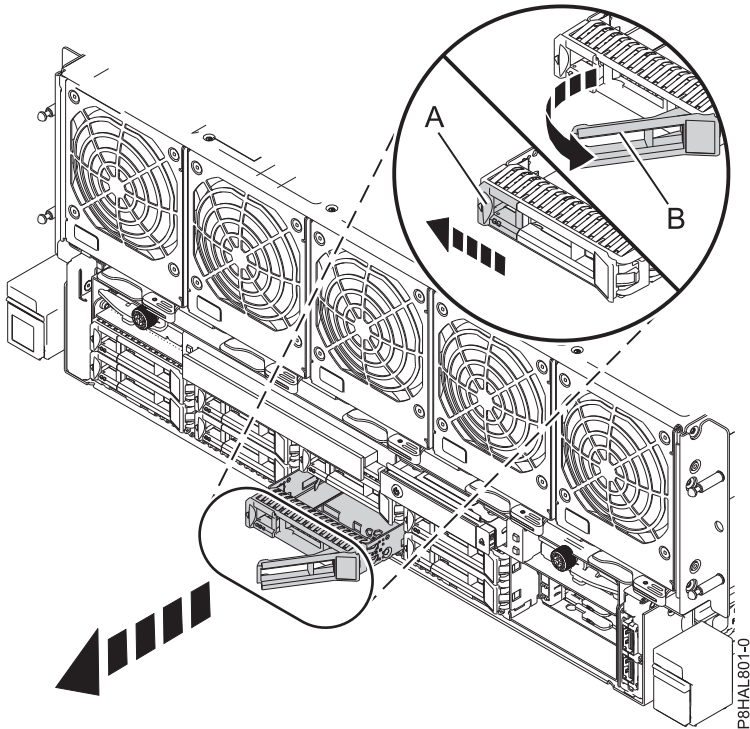

Figure 17. Removing a disk drive from the 8408-44E or 8408-E8E system
3. Unlock the drive handle (**B**) by pressing the handle latch (**A**) and pulling it out toward you, as shown in Figure 17 on page 28. If the handle is not all the way out, the solid-state drive cannot slide out of the system.